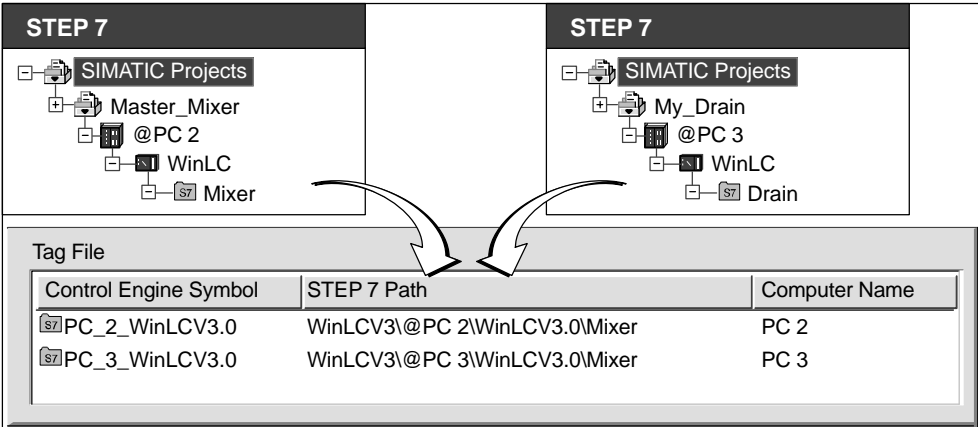

Figure 9-2 Creating a Tag File for Multiple Control Engines
3. Select several programs and add them to the tag file by clicking on the “→” button. Figure 9-2 shows two programs (“Master_Mixer” on PC 2 and “My_Drain” on PC 3) forming a single tag file. When you have added the programs for the tag file, click on the “OK” button.